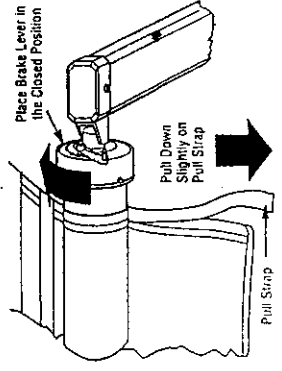

Fig. 3
6. While pulling down slightly on the pull strap, move the brake lever upward into the closed position. (Fig. 3)